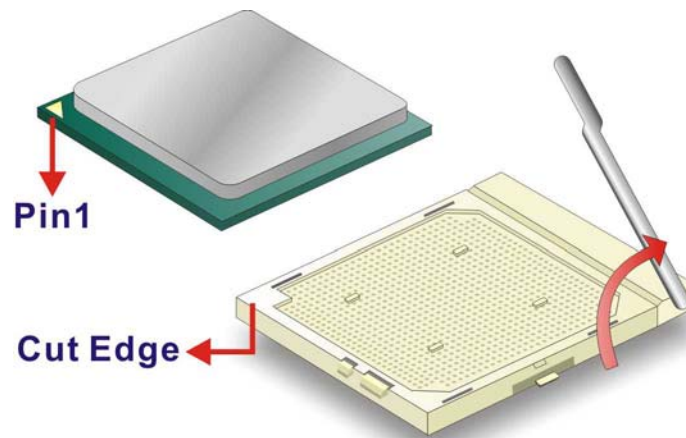

Figure 5-1: Install the CPU
- Step 2:** Open the CPU socket lever. Disengage the load lever by moving the lever slightly outward to clear the retention tab. Rotate the load lever to a fully open position. See Figure 5-1.
- Step 3:** Orientate the CPU properly. Make sure the IHS (Integrated Heat Sink) side is facing upward. See Figure 5-1.
- Step 4:** Correctly position the CPU. Match the Pin 1 mark with the cut edge on the CPU socket. See Figure 5-1.